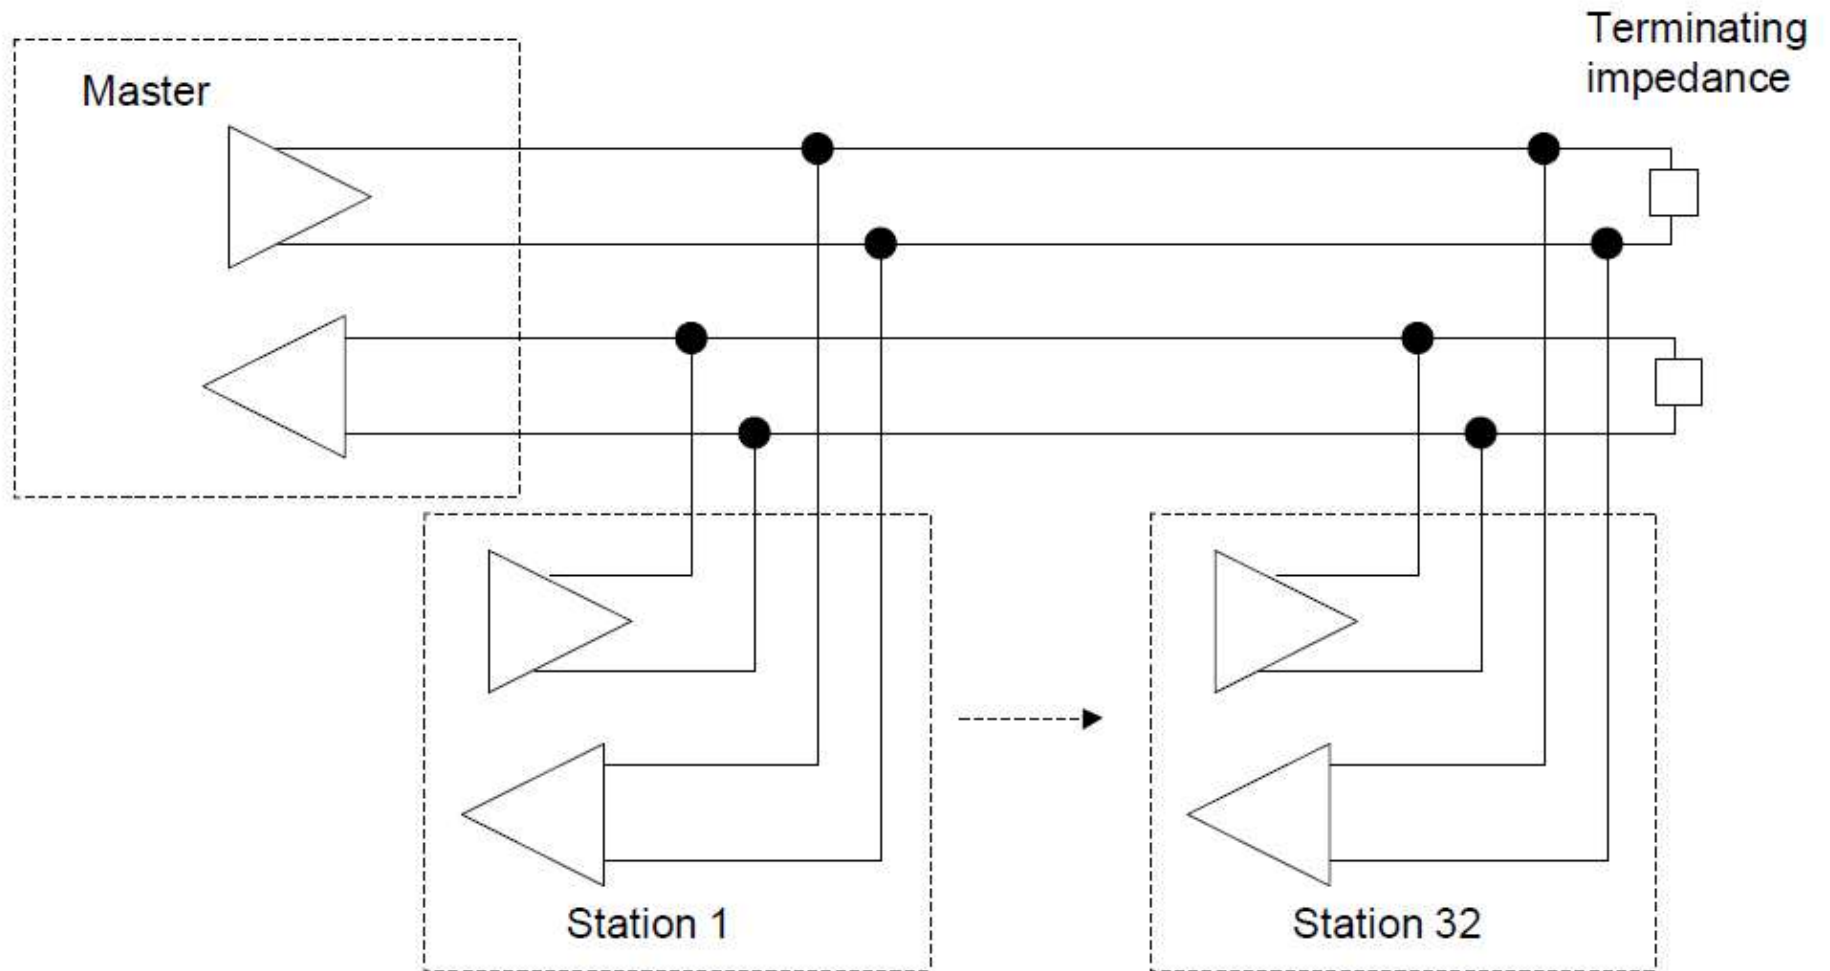

Figure 14: RS-485 connecting to multiple nodes
- **Four-wire** – in this mode, each station connects to a four-wire bus, as illustrated in Figure 14. It is necessary in this mode that one node acts a master station and all others as slaves. The master then communicates with each of the slaves. All slave nodes communicate only with the master node. A master–slave network is useful when mixed protocols are used.